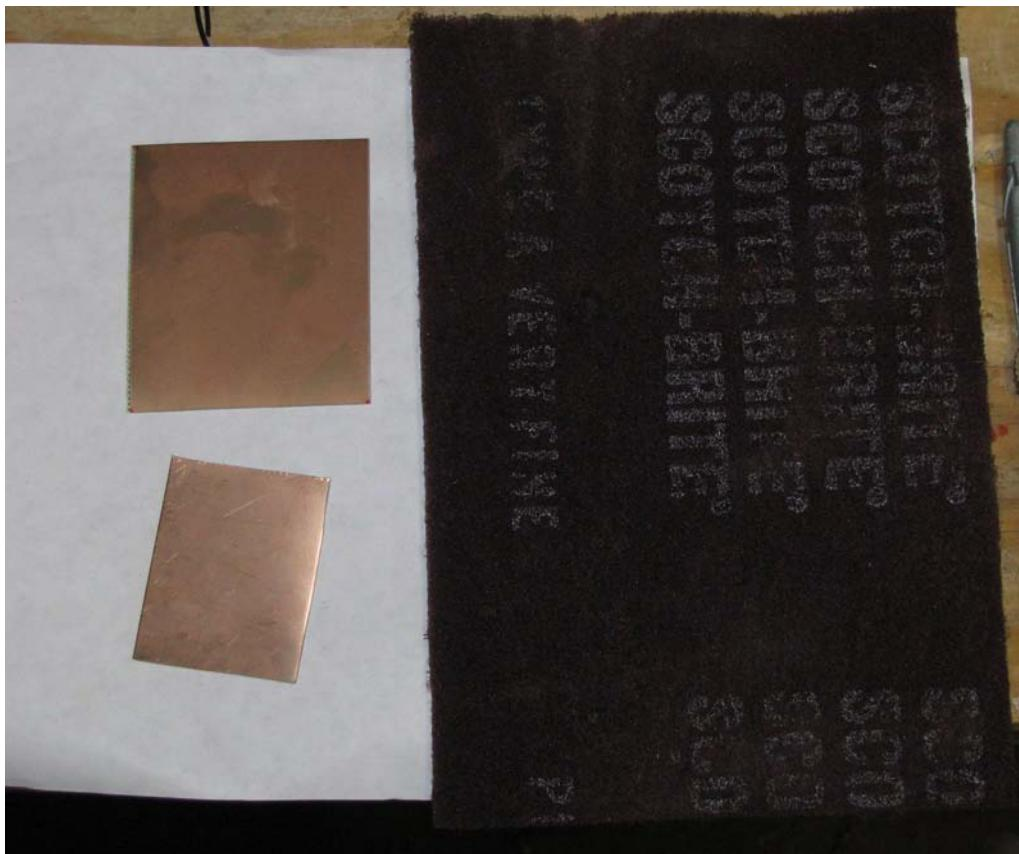

Figure 6-19. The two pieces of copper clad board cut to size and ready for cleaning
3. *Resize PCB:* With the PCB marked, use a razor-blade knife to score the PCB on each side. Cut clean straight lines with the razor-blade, scoring several times to make a nice groove. If using a double-sided PCB, repeat on other side. Now snap the PCB along the scored line, it should break easily, though you might have to use your razor knife to clean up the edge. You have to do this for each PCB that you make to avoid wasting copper clad board (see Figure 6-19).